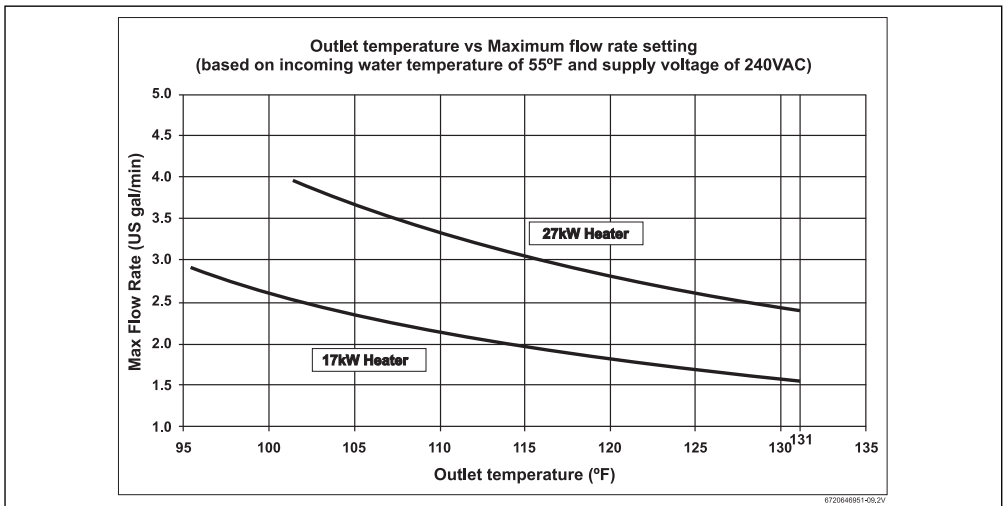

Fig. 11
- ▶ Adjust the inlet shut-off valve until the water flow rate from the hot faucet corresponds to the value given in Fig. 11 below.
- Adjust the inlet shut-off valve until the water flow rate displayed on the unit corresponds to the value given in fig. 11 below, noting any derate due to supply voltage. Derate for 208 and 220V is noted at the bottom of Table 5.
These figures are based on an inlet water temperature of 55 °F and a supply voltage of 240 volts. If the inlet water temperature is lower than 55 °F, or if the supply voltage is less than 240 volts, then the outlet temperature will be lower than what is shown in Fig. 11. If a higher outlet water temperature is desired, then reduce the flow rate and/or supply the unit with 240 volts. Please review Table 5 for derate percentage for supply voltage of 208VAC and 220VAC.
<p>The inlet water temperature is too cold</p>	<p>Verify the heater is sized appropriately for its geographic location. Turn temperature knob located on the front of the water all the way clockwise for maximum temperature setting. Ensure flow rates are within the heater's specifications. → Refer to Fig. 11 in section 4.6 Starting Up of the manual. Use of an isolation valve on the cold water inlet to control flow rate is recommended.</p>
Temperature dial is turned too low	Turn the temperature dial located on the front of the water heater clockwise for hotter temperatures. → Refer to Fig. 11 for outlet temperature vs. flow rate variance.
Water flow is too high	Adjust water flow to stay within the water heater's specifications. → See Fig. 11 of this manual.
Inlet shut-off valves are set too low	Adjust installer supplied inlet valve as described below: <ul style="list-style-type: none"> • Completely open both installer supplied inlet and outlet shut-off valves at the heater. (if none installed, install before proceeding). • Completely open hot water on the highest flowing hot water fixture served by the heater (i.e. bathtub). • Slowly close the inlet shut-off valve, slowing the water flow rate until the temperature at the hot water faucet corresponds to the values given on →Fig. 11 of the manual, or desired water temperature is reached.